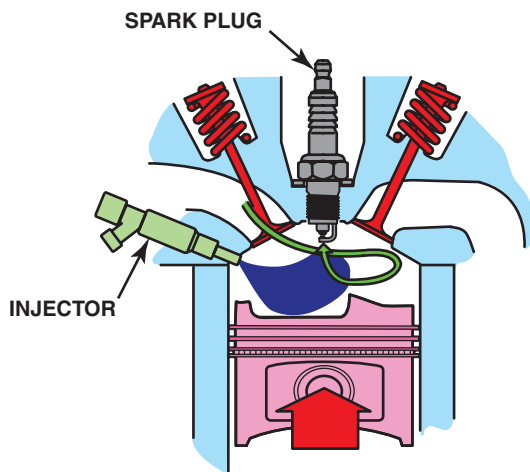

FIGURE 21-8 The piston creates a tumbling force as the piston moves upward.
- **Tumble combustion.** Depending on when the fuel is injected into the combustion chamber, this helps determine how the air-fuel mixture is moved or tumbled. ● **SEE FIGURE 21-8.**